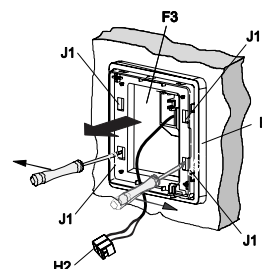

Figure 9: Remove the back housing
- Insert screwdriver to the holes (J1) and press as showed in Figure 9.